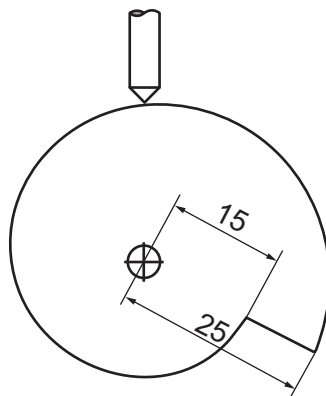

Fig. 11.2
- (b) Fig. 11.2 shows a cam profile and follower.
- (ii) Mark the direction of rotation of the cam on Fig. 11.2. [1]
- (iii) Give the vertical distance that the follower is lifted in each revolution of the cam in Fig. 11.2.